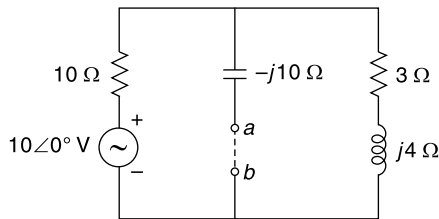

Fig. 6.43
13. Replace the network of Fig. 6.43 at terminals $(a-b)$ with the Norton's equivalent circuit. [Ans: $I_N = 0.439\angle105.26^\circ$ A, $Z_N = 8.37\angle-69.23^\circ\ \Omega$]